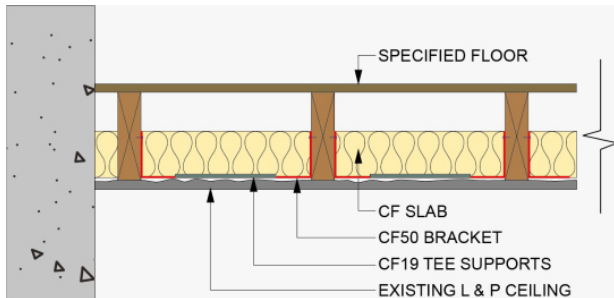

Figure 3
5. Install the CF Slabs between joists, firmly pushing them onto the CF50 brackets. See Figure 3.